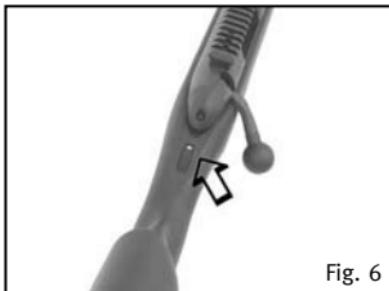

Fig. 6
1. Move rotary safety of the rifle to position “**Safety**“ (Fig. 6).